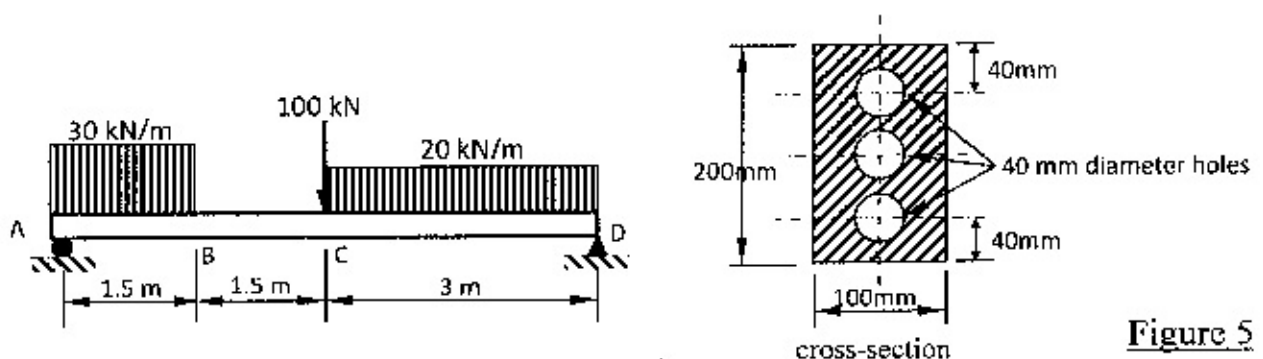

Figure 5
- Q5.** For the beam shown in Figure 5 determine the following:-